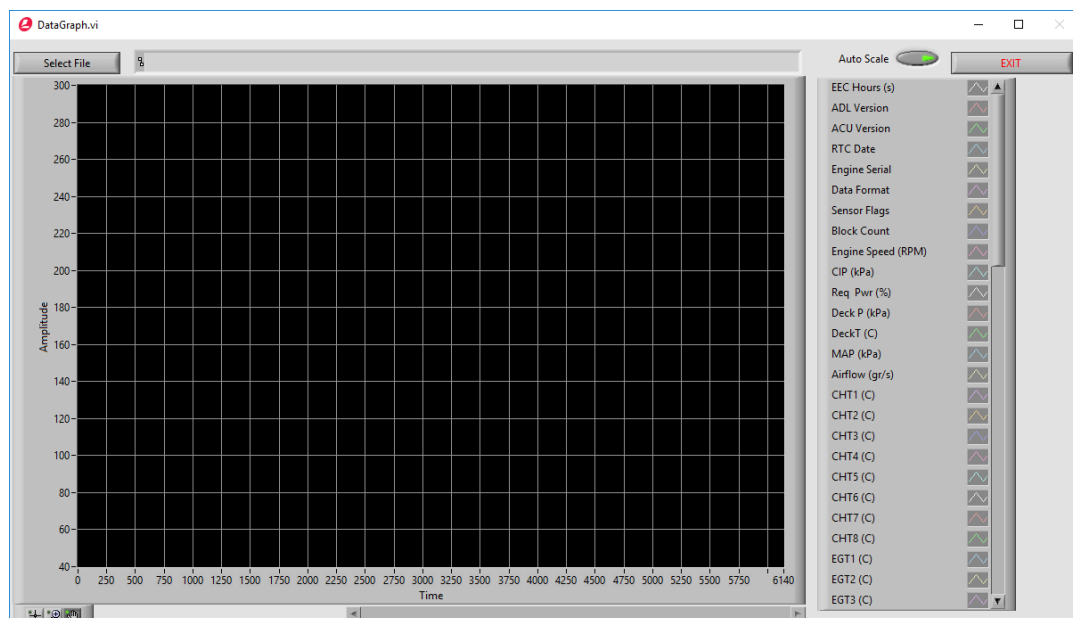

Figure 16
3. The program will open a separate Data Graph window (Figure 16).